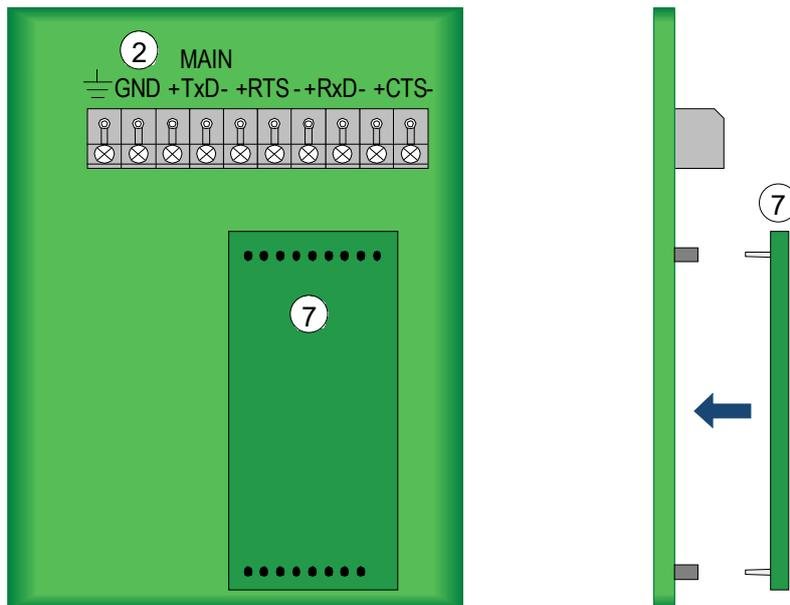

Fig. 14: Interface module socket
Plug the interface modules (7) onto the basic module making sure they are correctly positioned as shown in Fig. 14.